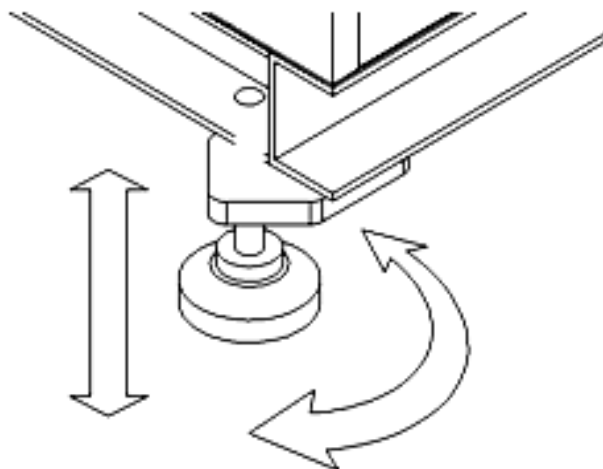

Figure 4-6. Leveling Feet
4.5.2. Rotate the blower about the discharge pipe center so as to get accurate position of the blower feet. Then adjust horizontal level by adjusting the leveling feet beneath the blower as shown in Figure 4-6.